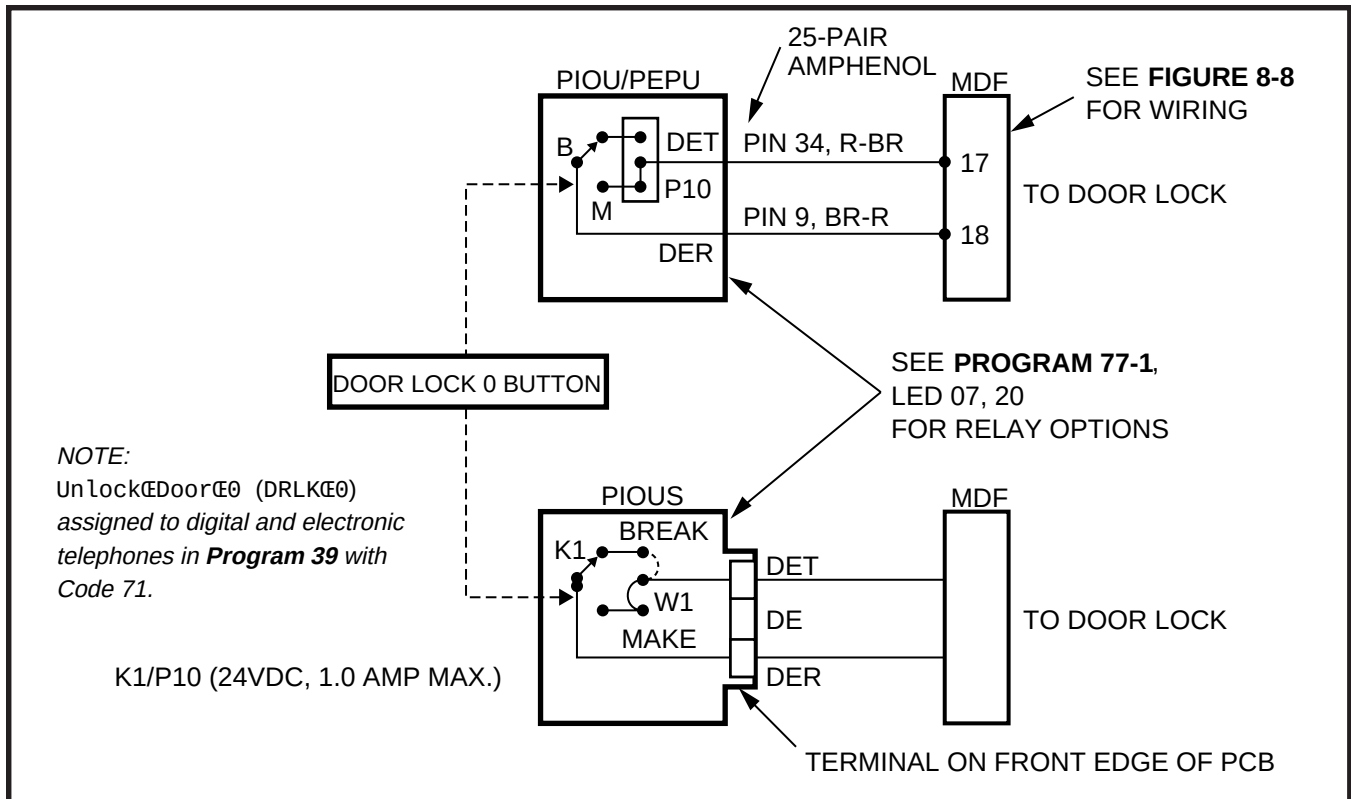

FIGURE 8-10
4.15 Door Lock Control (PIOU or PIOUS or PEPU). Configure the PIOU, PIOUS, or PEPU for the door lock control function in accordance with the following steps: (Refer to Figure 8-10.)
4) Refer to Figure 8-10 for wiring/interconnecting details. Connect the PIOU, PIOUS, or PEPU to the MDF as required for the door lock control function.